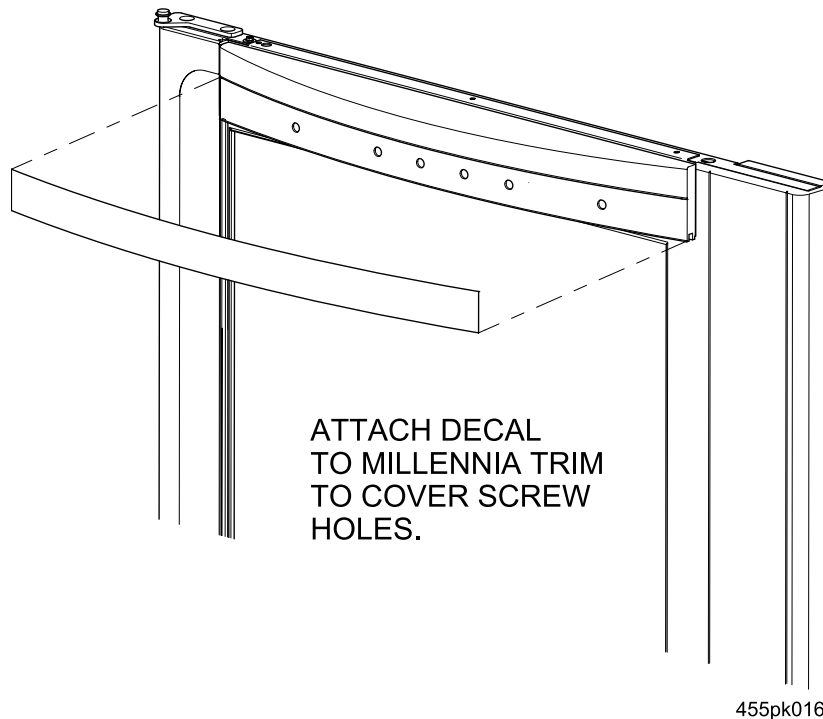

Figure 2
9. Place the decal part #4552401 over the screw holes on the Millennia trim piece (See figure 2).